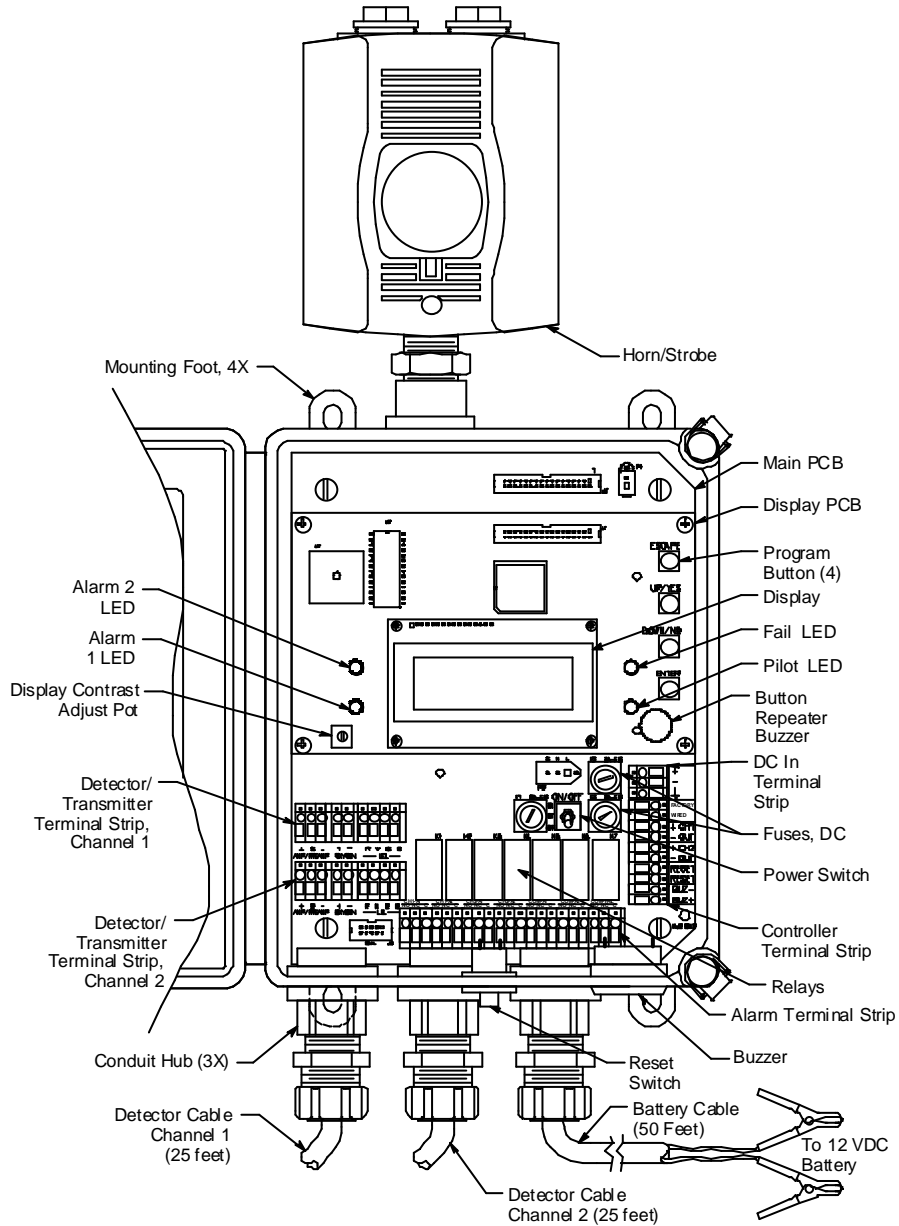

Figure 1. Beacon 200 Rig Monitor Component Location
- **Detector/Transmitter Terminal Strips.** Two detector/transmitter terminal strips are located near the bottom left corner of the main circuit board (see Figure 1). These two 9-point terminal strips facilitate wiring connections to the detectors. Only one detector head at a time may be wired per channel. The top terminal strip is for channel 1 and the bottom terminal strip is for channel 2. The H₂S detectors are factory wired to these terminal strips.
- **Alarm Terminal Strip.** The alarm terminal strip is located along the bottom edge of the main circuit board (see Figure 1). This 21-point terminal strips facilitates wiring connections to external alarm devices (horn, strobe, etc.). Terminals are provided for individual channels as well as common alarm relay contacts. The horn/strobe is factory wired to this terminal strip.
- **Controller Terminal Strip.** The 10-point controller terminal strip is near the lower right edge of the main circuit board (see Figure 1). The controller terminal strip facilitates various internal and external wiring connections. Table 3 lists the function of each terminal.
- **DC In Terminal Strip.** The DC in terminal strip is a 3-point terminal strip located above the controller terminal strip (see Figure 1). It facilitates wiring from the 12 VDC battery. The 50 foot battery cable is factory wired to this terminal strip. Table 4 lists the function of each terminal.
- **Channel relays.** The four channel relays are above the alarm terminal strip (see Figure 1). These relays are dedicated to specific channels and alarm levels.
- **Common relays.** The three common relays, alarm 1, alarm 2, and fail, are to the left of the controller terminal strip (see Figure 1). These relays are common for both channels.
The power switch is located above the relays and to the left of the DC fuses (see Figure 1). The power switch turns the incoming DC power source on and off at the Rig Monitor. When the switch is up, the power switch is on.